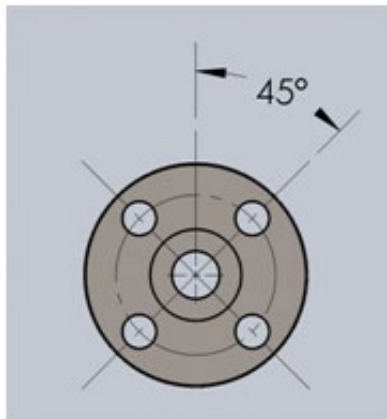

Figure 2. Bolt Hole Orientation
- Weld flanges to existing pipe. Make certain the pipe flanges and Accelabar® flanges are the same Nominal Pipe Size (NPS) and pressure rating. Bolt hole location typically mimics the diagram shown (See Figure 2) where bolts straddle the centerline of the pipe if the desired location of the sensor head is directly above or below the pipe (for horizontal pipes). However, take into consideration mounting as required in Section 4.0.